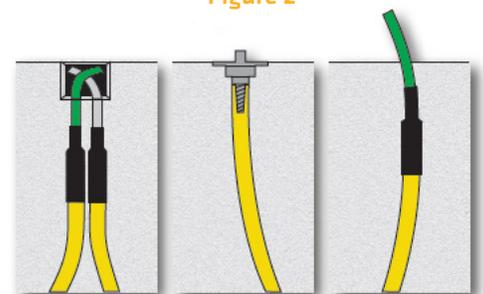

Figure 3
2. If injection of the **SikaFuko® VT** Hose is required, the injection pump is connected to the PVC vent ends. Fiber reinforced PVC vent ends should be exposed at the exterior in convenient, accessible locations for future injections. Junction boxes, nail packers, or simply continuing fiber reinforced vent ends to the outside of the concrete can be utilized (see figure 3).